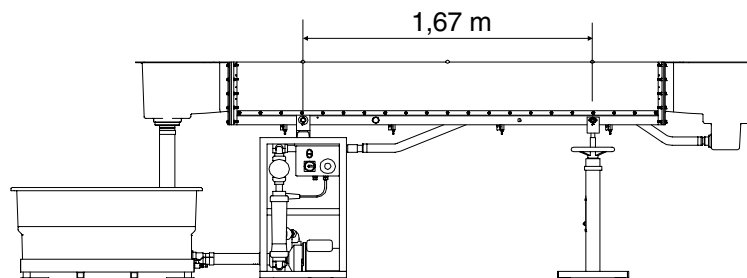

Fig. 2.9
- Mount the bearing pedestals at intervals of 1.67 metres (Fig. 2.9)
- Lift the segment with two people and mount it first in the pump-side pedestal. **Important! For the 2.5 metre version the outer suspension points of the segment are used!** (see Fig. 2.9)